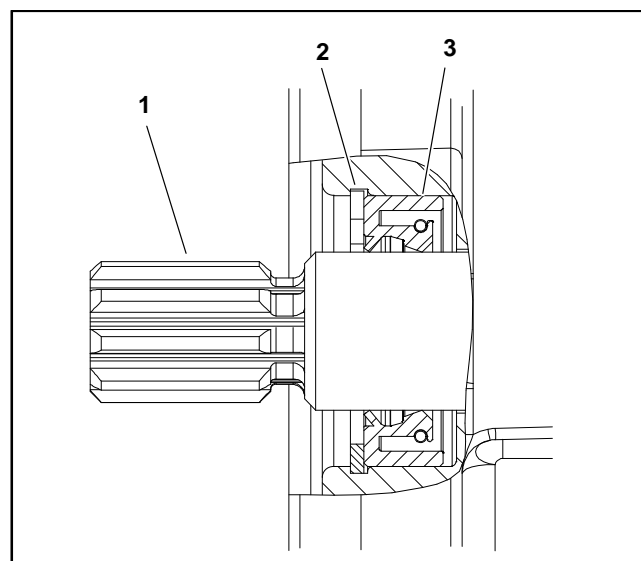

Figure 132
10. Carefully remove retaining ring and shaft seal from the front plate (Fig. 132). Note orientation of seal lips during removal. Discard removed seal.
2. Install new shaft seal in front plate. Note orientation of seal lips during installation (Fig. 132). Seal should be pressed into place until it reaches the bottom of the bore.